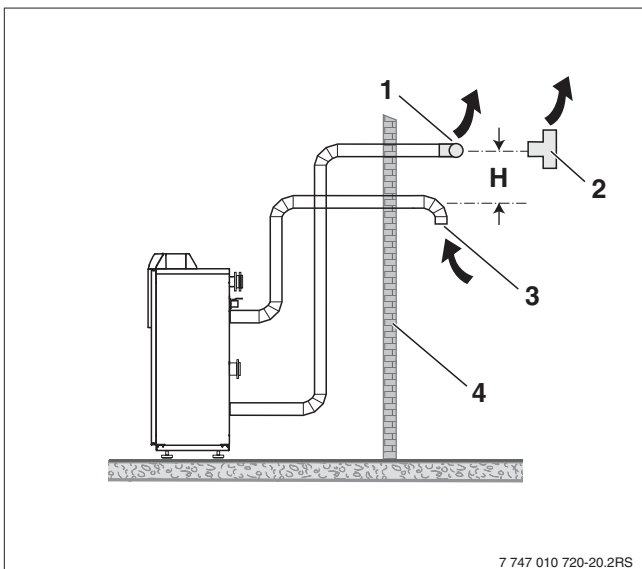

Fig. 14 Wall-exit air supply pipe and exhaust
5.5.3 Horizontal Vent and Horizontal Combustion Air Inlet (Natural Gas) (See Figure 14)